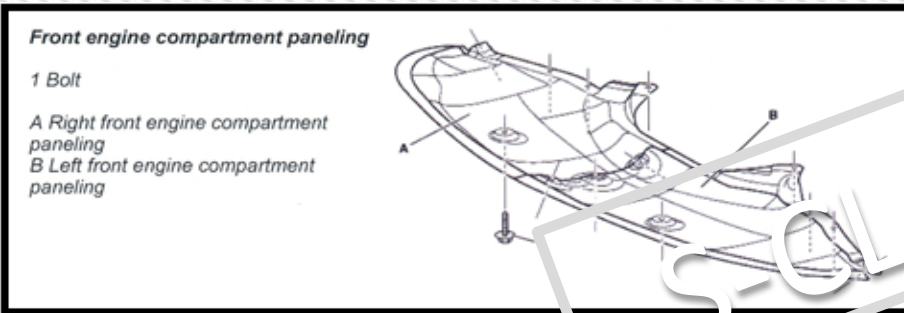

Figure 2.0
9.0 Remove engine compartment paneling (right front section only). (Figure 2.0)